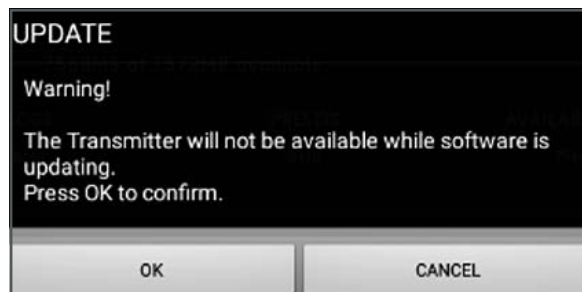

Figure 131: Update Confirmation Screen
5. At the screen shown in *Figure 131* below, click the OK button to confirm the update and continue.